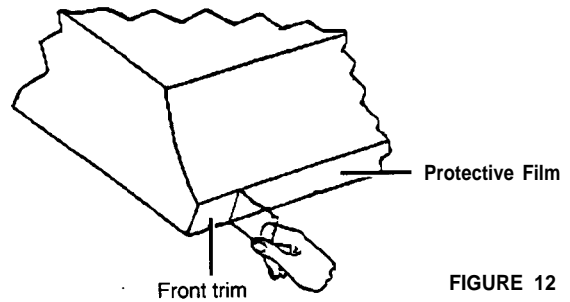

FIGURE 12
**IMPORTANT:** After installation, peel off the transparent protective film stripping from the decorative trim on the front of the hood. (See Fig. 12.)